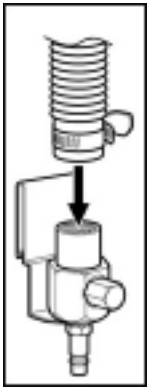

Fig. 12
2. Connect the other end of breathing tube to either the 3M™ W-2909CV (high pressure) or 3M™ W-3032CV Regulator and secure with clamp. (Fig. 12)